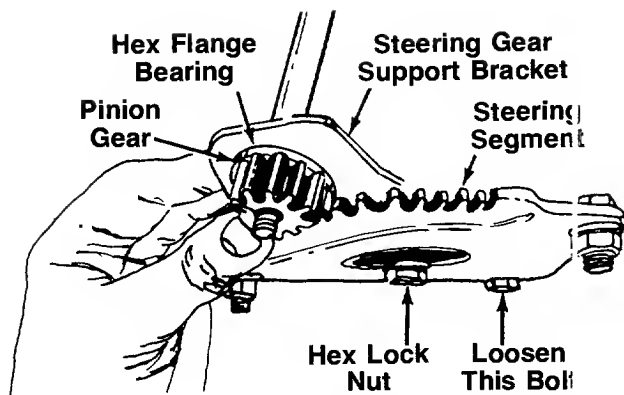

FIGURE 6.
6. **Style A**—Insert the **steering shaft** with assembled parts through the **steering housing cover**. The lower end of the shaft should extend through the hole in the front end of the **steering gear support bracket** (Ref. No. 12 on page 30). See figure 6. **Style B**—Insert the **steering shaft** through the **steering housing cover**. Place **flat washer** and **plastic spacer** over end of **steering shaft** before inserting the shaft through the hole in the front end of the **steering gear support bracket** (Ref. No. 12 on page 30).
8. Place **hex flange bearing**, flat side down, over the end of the **steering shaft**, and seat it into the **steering gear support bracket**. See figure 6.
12. Make certain the hex lock nut which secures the steering segment to the steering gear support bracket (shown in figure 6) is tightened so there is no play between the two parts. Do not over-tighten as the steering segment must be free to turn.